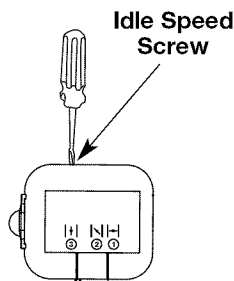

Fig. 27
The idle speed of the engine is adjustable. An idle adjustment screw is between the air filter cover and the engine starter housing (Fig. 27).
2. Release the trigger and let the engine idle. If the engine stops, insert a small phillips screwdriver in between the Air Filter Cover and the Engine Cover (Fig. 27). Turn the idle speed screw in, clockwise, 1/8 of a turn at a time (as needed) until the engine idles smoothly.